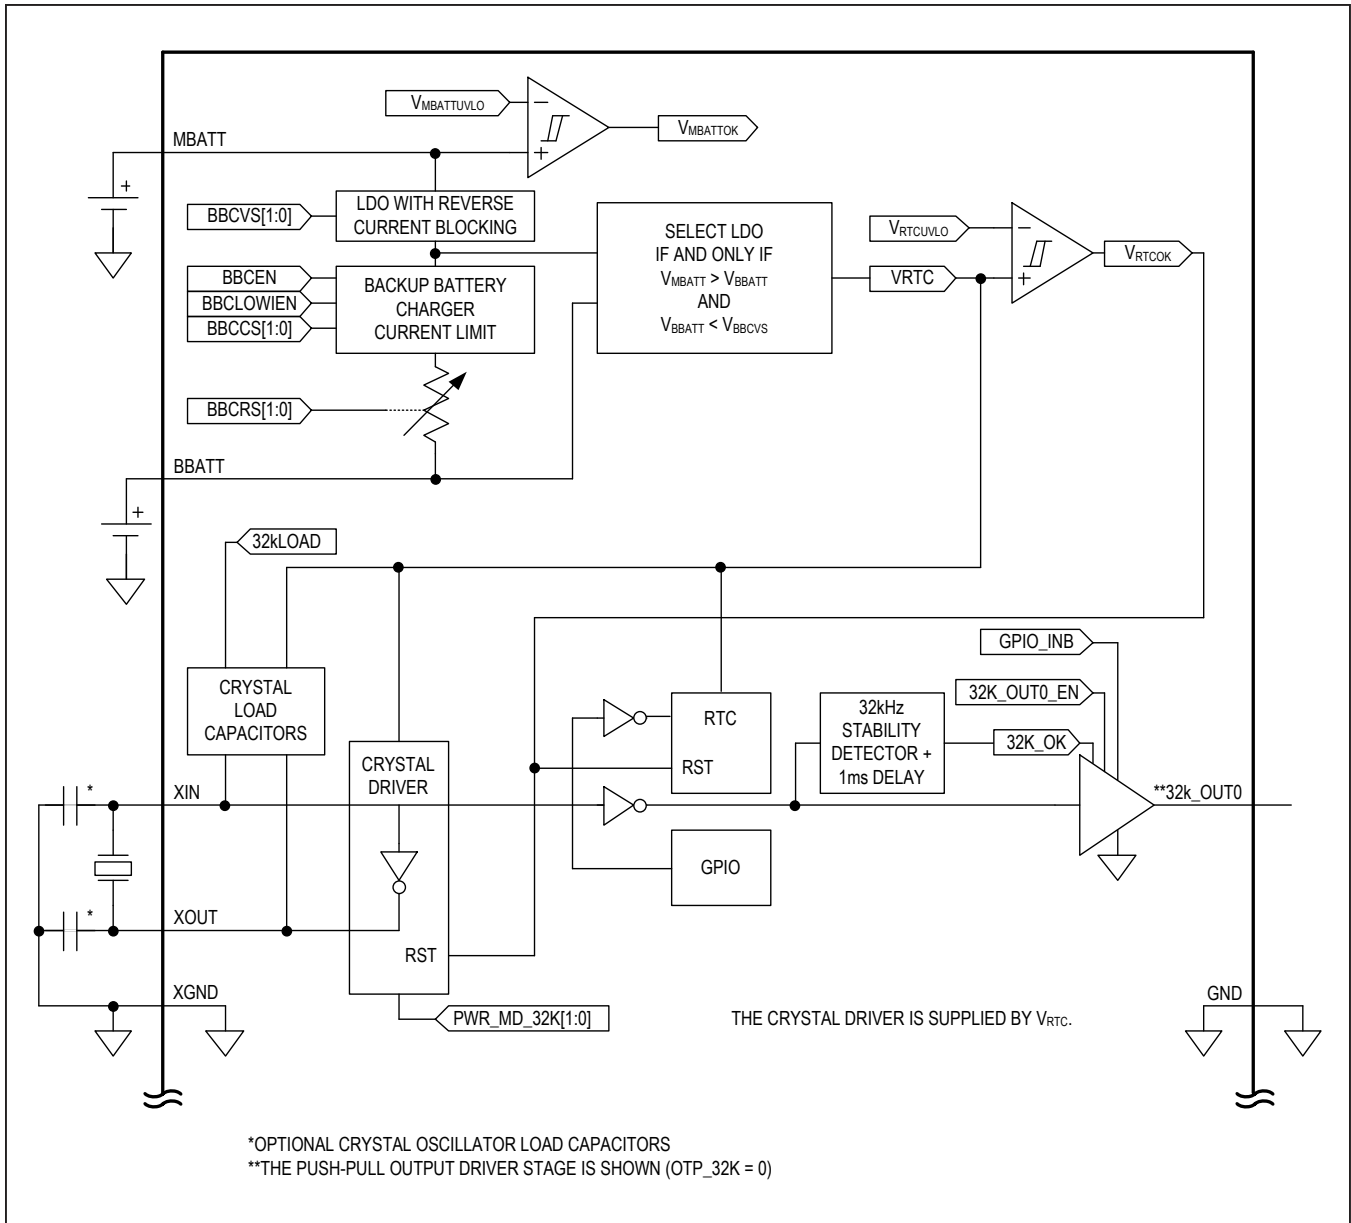

Figure 14. Backup Battery Charger, 32kHz Crystal Oscillator and RTC
The IC contains a crystal oscillator driver with internal load capacitance selectable by 32KLOAD[1:0] (Figure 14). PWR\_MD\_32K controls whether the crystal driver is in low-power mode or low-jitter mode. In low-power mode, the oscillator quiescent current is 1.5µA and in low-jitter mode the cycle-by-cycle jitter is 15ns. The crystal driver is supplied from the internal VRTC node which is equal to VMBATT if VMBATT > VMBATTUVLO.
The backup battery charger is a constant voltage (CV) and constant current (CC) style charger with a series output resistance as shown in Figure 14. The backup battery charger is enabled and disabled with BBCEN. The charge current, charger voltage, output current, and output resistance are adjustable with the BBCCTRL register. The backup-battery charger is suitable for the following types of backup cells: